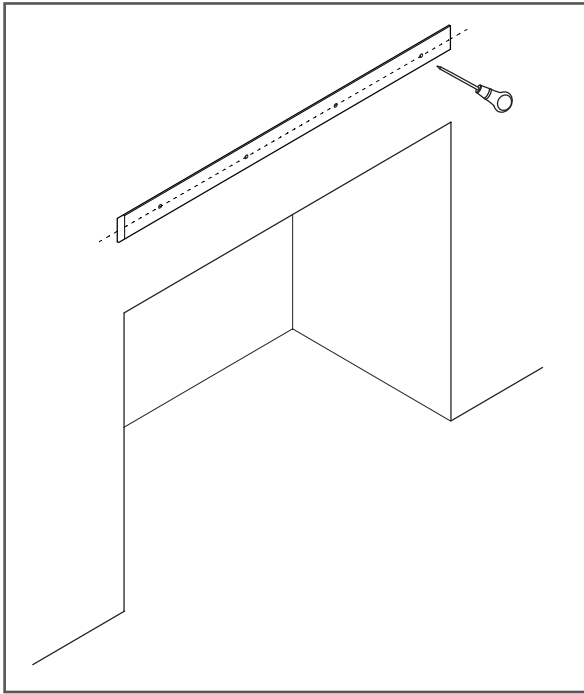

Figure 4
6. Place the cleat on the line made in step 1 (Figure 4).
7. Mark the wall with an awl through the pilot holes in the cleat. Set the cleat aside (Figure 4).